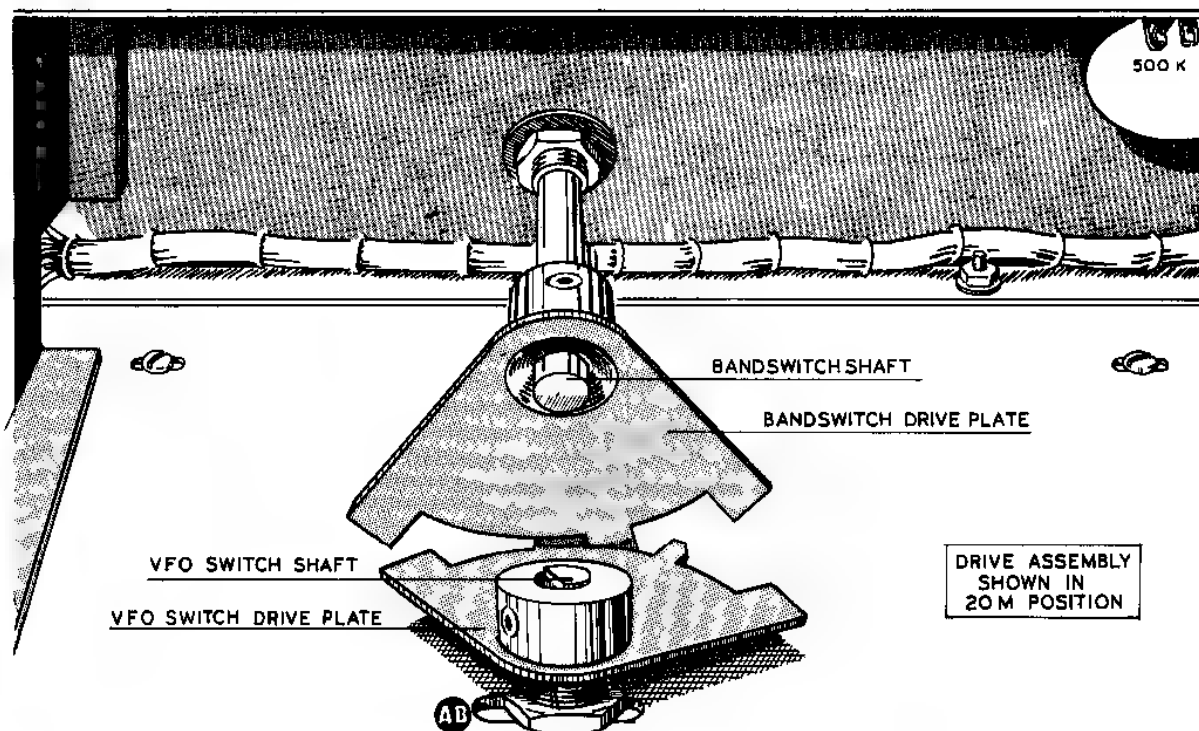

Figure 35
- () Rotate the VFO switch shaft two steps in the CW direction. Locate the band switch drive plate, which is the plate with three cogs on it and start a #8-32 x 1/4" Allen head set screw into the hub. Position the band switch drive plate so the cogs of the two plates mesh as shown in Figure 35. Before securing the set screw on the shaft flat, further position the band switch drive plate so its cogs are about 1/32" from the cog base edge of the VFO drive plate. Now secure the band switch drive plate set screw.